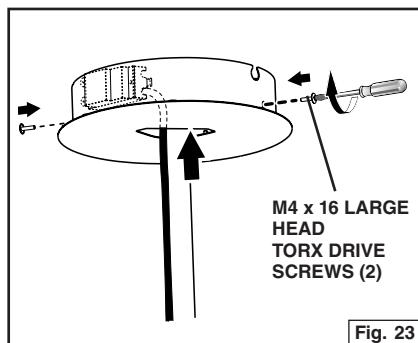

Fig. 23
2. Install the ceiling canopy and attach with (2) M4 x 20 large head torx drive screws. Fig. 23. Remove the protective coating.